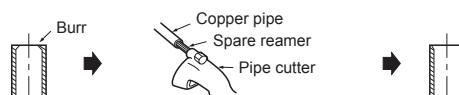

Fig. 3
- When connecting the drain hose to the hard vinyl chloride pipe, be sure to insert it securely into the pipe. (Fig. 3)
- 2) Remove all burrs from the cut section of the pipe, ensuring that precautions are taken to avoid getting metal shavings into the piping. (Fig. 3)